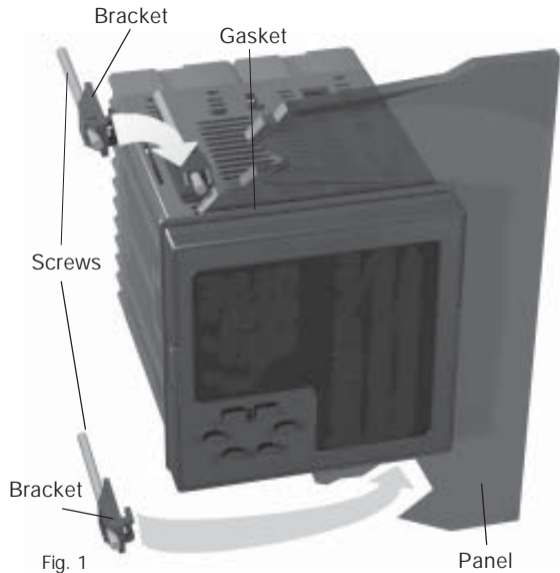

Fig. 1
To assure the IP65 and NEMA 4X protection, insert the panel gasket between the instrument and the panel as shown in fig. 1.
- 4) insert the mounting brackets as shown in fig.1;